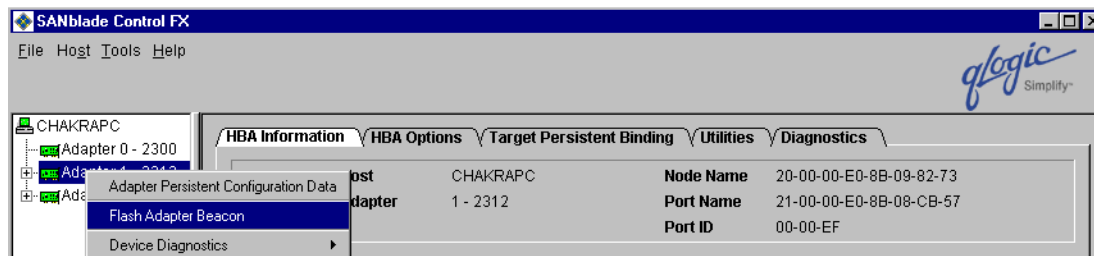

Figure 14-29. Flash Adapter Beacon
2. Select **Flash Adapter Beacon** (see figure 14-29). The QLA23xx HBA's LED begins to flash.